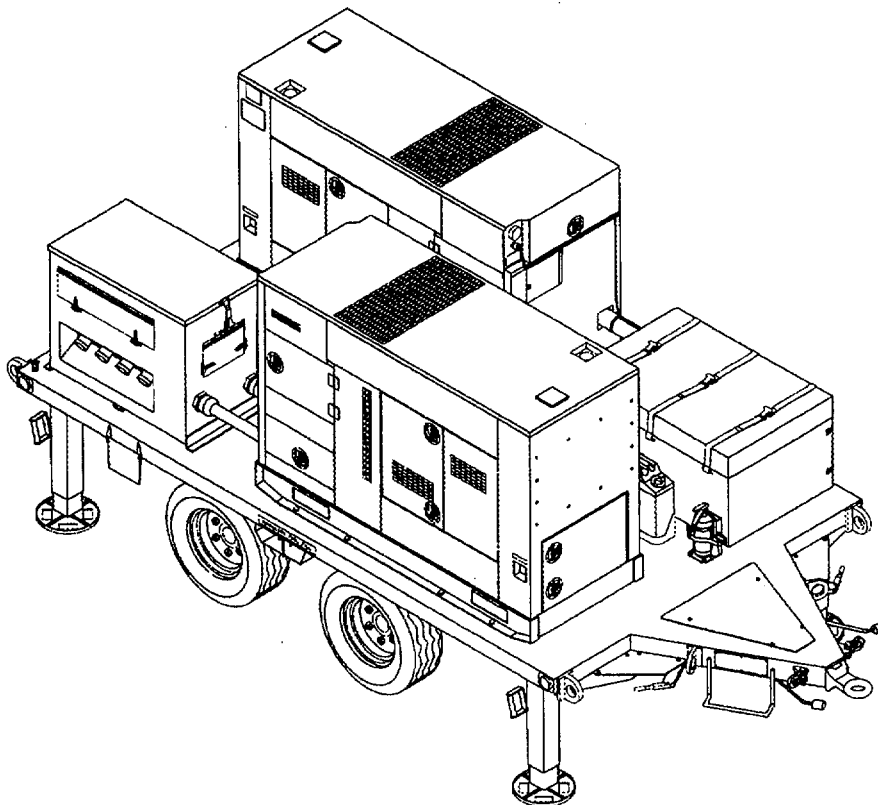

Figure 2-3. Power Plant Installation
- b. Set the trailer handbrakes and lower the leveling jacks as shown in figure 2-3. Refer to TM 9-2330-376-14&P for detailed installation of trailer.